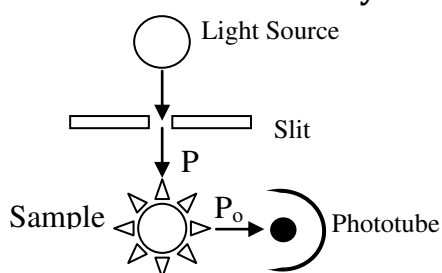

Figure 4.1: Nephelometry
- Turbidity measurement is based on comparison of the amount of light scattered by the sample in defined conditions with the amount of light scattered by a standard reference suspension. The scattered light from sample can be measured by a light detector placed at right angle to the original light path; this technique is known as Nephelometry (Figure 4.1). ***(P_o/P) will be lower for samples that are less turbid.***